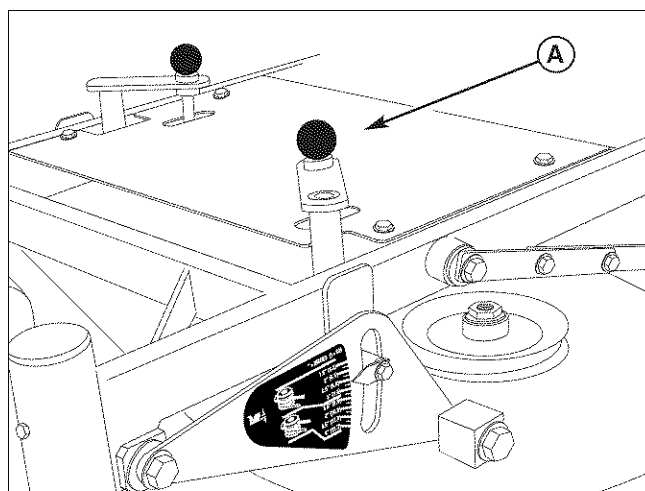

Figure 6. Remove the Cutter Deck Guard
1. Remove the mower deck guard (A, Figure 6) to gain access to the mower deck drive belt.